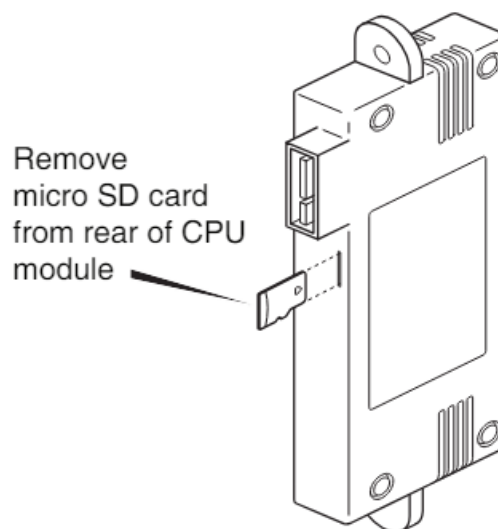

Fig 6 Removing micro SD card from plug-in CPU module
1. The easiest and fastest technique is to unplug the CPU module from the Hazardous area Pageant Operator Display and remove the micro SD card as shown in Fig 6